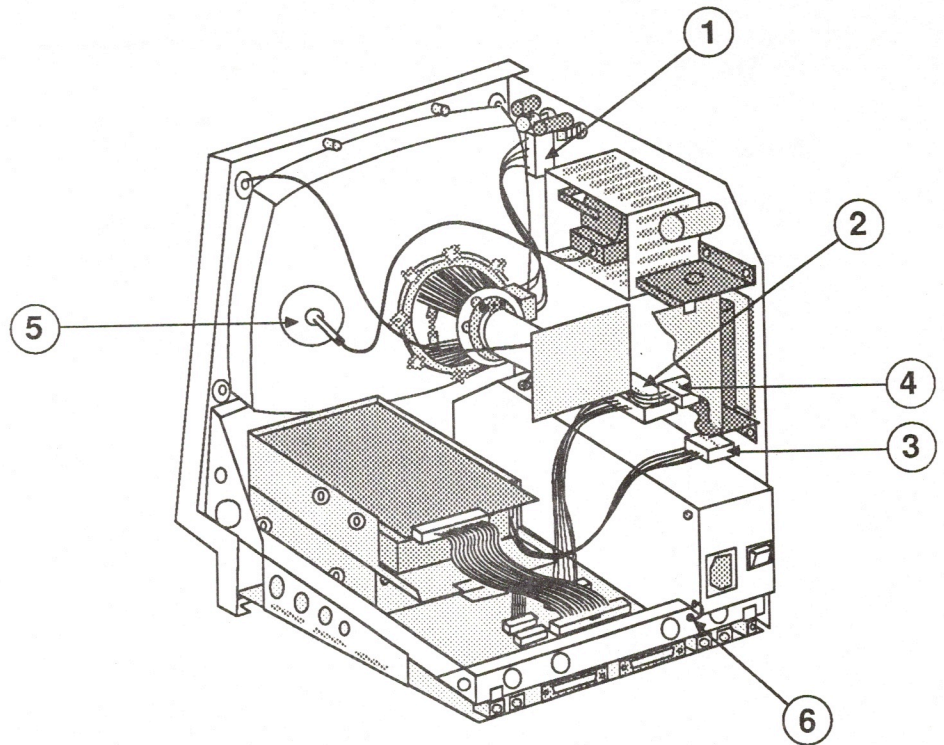

FIGURE 12
- Yoke cable (Figure 12, #1)
- Main logic cable (Figure 12, #2)
- Hard disk drive power cable (Figure 12, #3), if present
- Video board cable (Figure 12, #4)
9. Replace the anode cap (Figure 12, #5).
10. Replace the screw that secures the power supply ground wire to the chassis (Figure 12, #6).